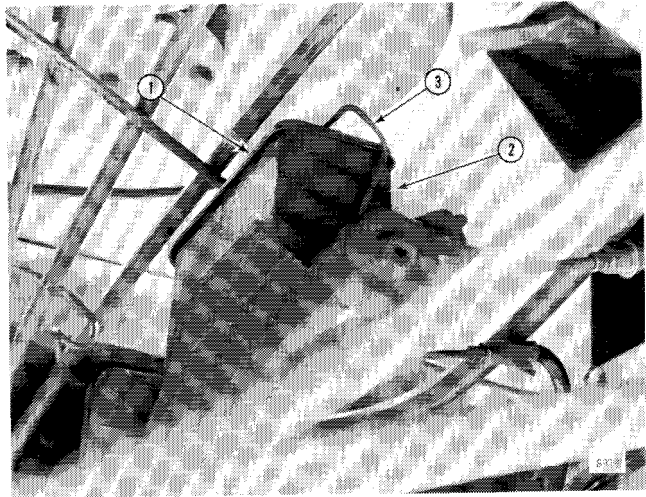

Figure 125
7. Swing bail wire (3, Figure 125) to one side and remove cover (1) from master brake cylinder (2).